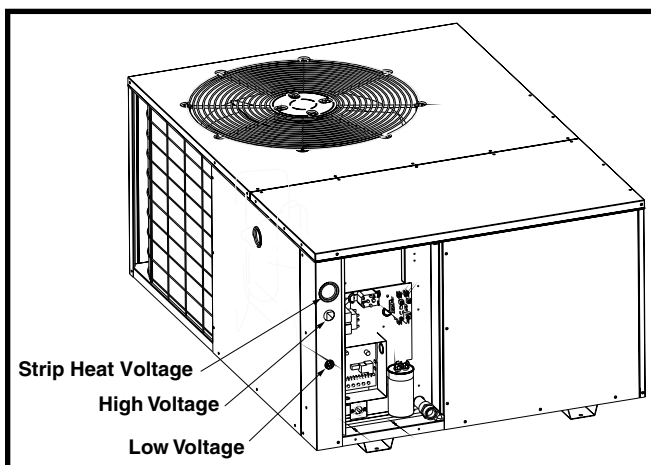

Figure 7. Power Entry
- Provide power supply for the unit in accordance with the unit wiring diagram, and the unit rating plate. Connect the line-voltage leads to the terminals on the contactor inside the control compartment. Extend leads through power wiring hole. See Figure 7. Connect L1 & L2 directly to the contactor.